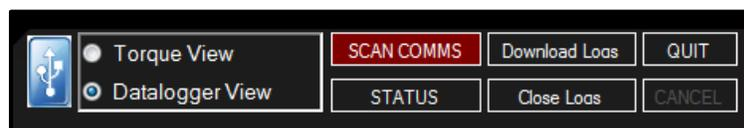

Figure 5.2-1: Scan Comms for Transducers
5. If the Transducer doesn't connect to the Software, select "**Scan Comms**" from the bottom of the screen (Figure 5.2-1). See Section 8.0 – Troubleshooting if the problem persists.